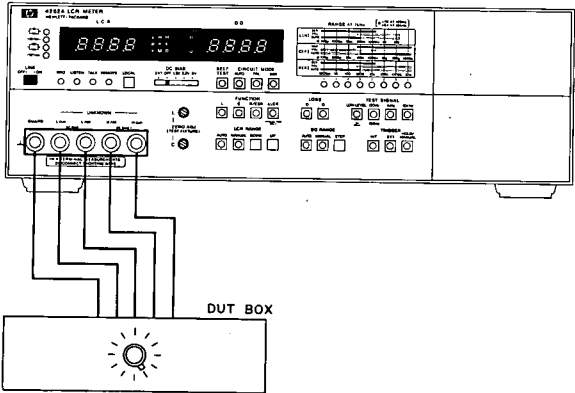

Figure 4-3. Resistance Accuracy Test Setup
1. Connect Test Leads (HP P/N 16361-61605) between 4262A UNKNOWN terminals and HP 16361A DUT Box (see Figure 4-3).